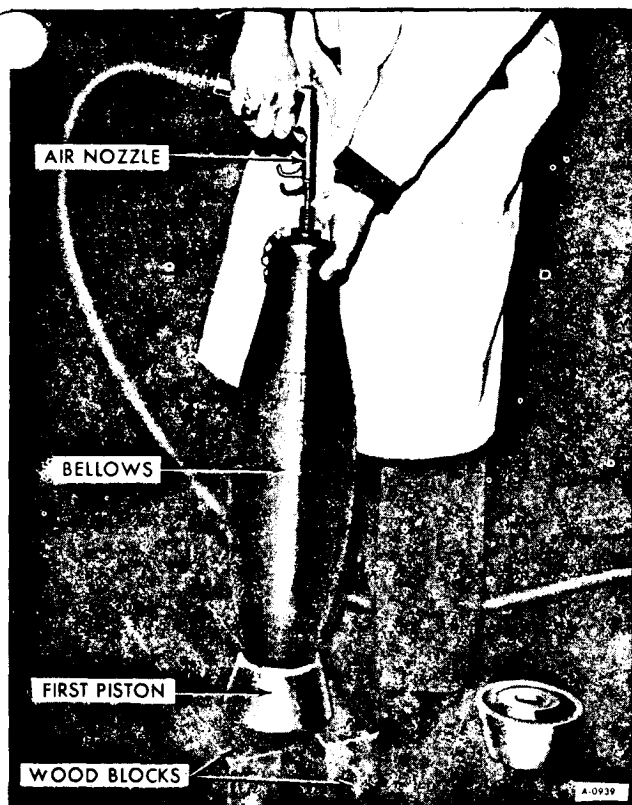

Figure 37—Applying Shop Air to Air Bellows
2. Referring to Figure 37, apply shop air to bellows while pushing down on bellows, release air pressure. The bellows will fold over the piston.